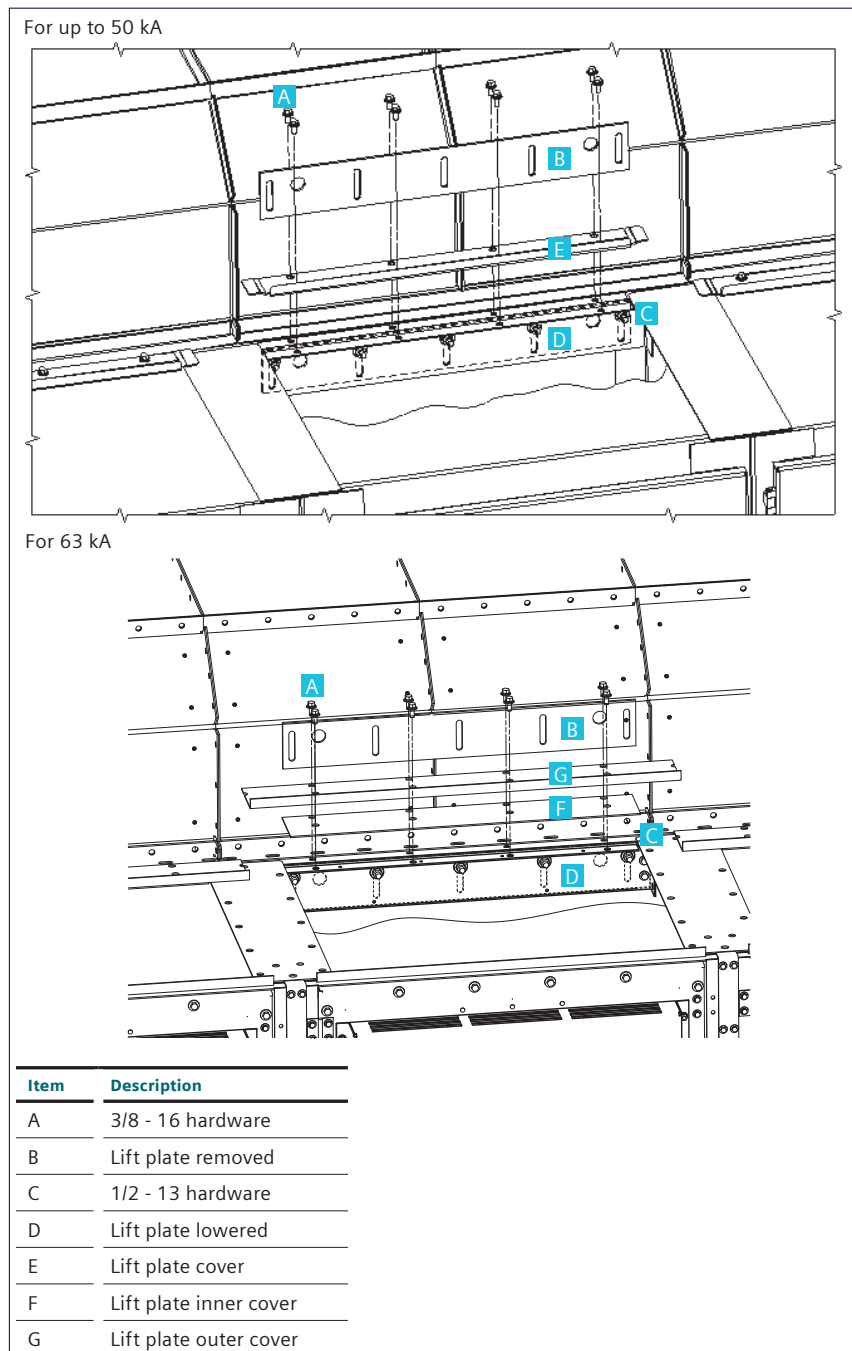

Figure 11: Lift plate cover installation
Note: That bolts inside the units that clamp the lift plates in place must be loosened to allow movement of the lift plates (or removed for removal of the plates) and must be re-installed and retightened after the plates have been lowered or removed. Refer to Figure 11: Lift plate cover installation. Torque the 1/2-13 SAE Grade 5 hardware to 50-75 lb-ft (68-102 Nm).
7. Install the lift plate covers as shown on Figure 11: Lift plate cover installation. The covers are shipped in a separate package and will be listed on the "Accessories" drawing. (This drawing is listed on the "Reference drawing list".) Torque the 3/8-16 SAE Grade 5 cap screws to 25-40 lb-ft (34-54 Nm).